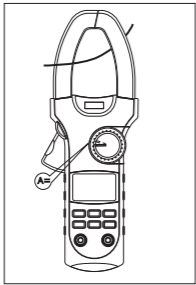

Figure 9
G. Measuring DC Current (See Figure 9)